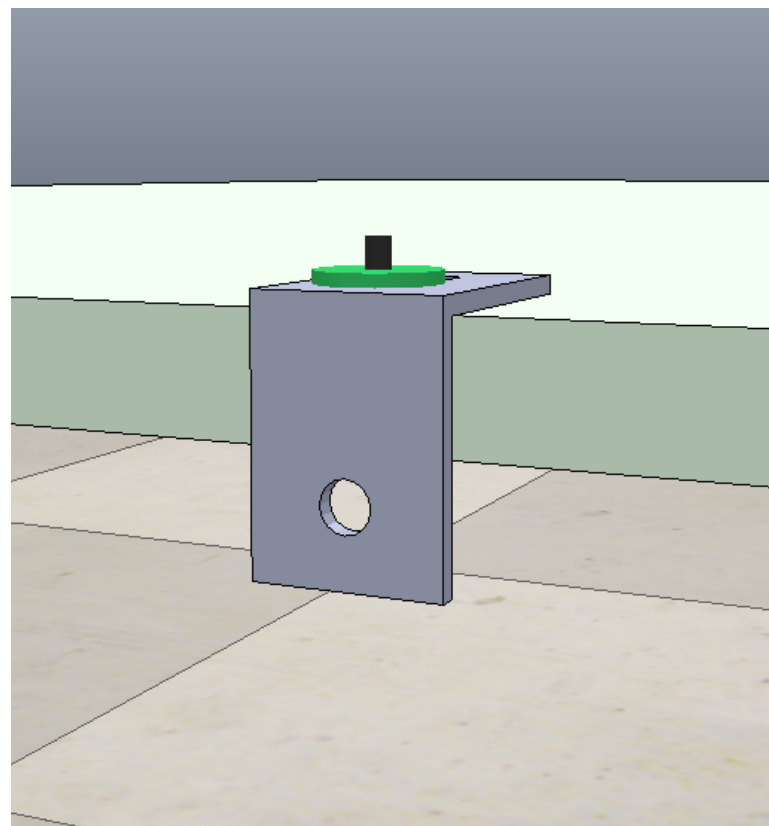

Figure 6: Placement of force sensor between *l_connector* and *top_plate*.
- As an example, use force sensor between ***l_connector*** and ***top_plate*** as shown in Figure 6.